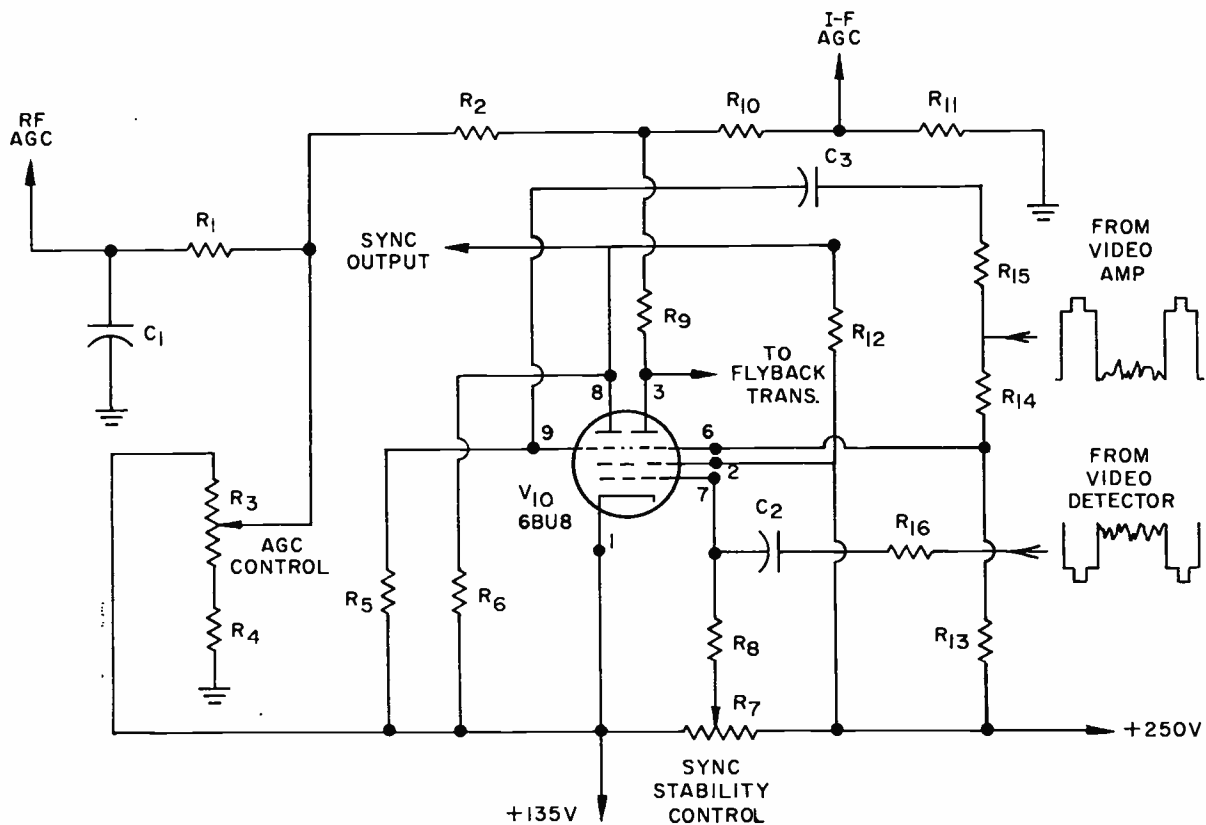

Fig. 17. Sync separator and gated agc.
A circuit of this type using a 6BU8 tube is shown in Fig. 17. In this tube, the cathode and first two grids are common to both sections. Grid number one serves
- (w) What elements are common to both sections of the 6BU8 tube used in Fig. 17?
- (x) What are two advantages of a circuit like the one shown in Fig. 17? (Not answered directly in text - try to think of two advantages.)